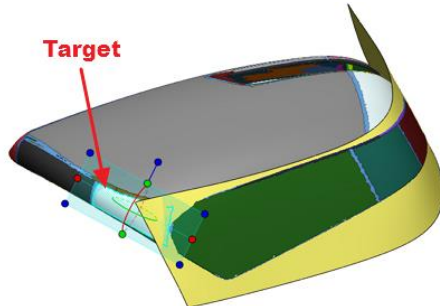

Figure 208
- Select the region shown in **Figure 208** as the Target **Regions/Poly-Faces**.